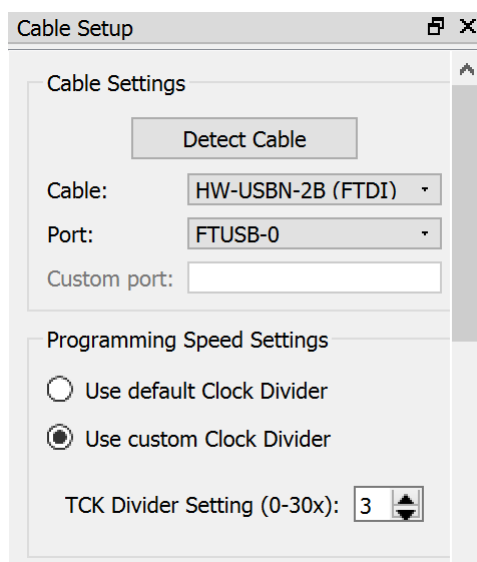

Figure 6.7. TCK Frequency Setting
- If you get verification error while dumping the .bit file, try changing the TCK frequency to be greater than 4. The TCK Divider setting option can be got from the right-click menu of the Radiant Programmer Window (Figure 6.7). Restart programming by clicking .